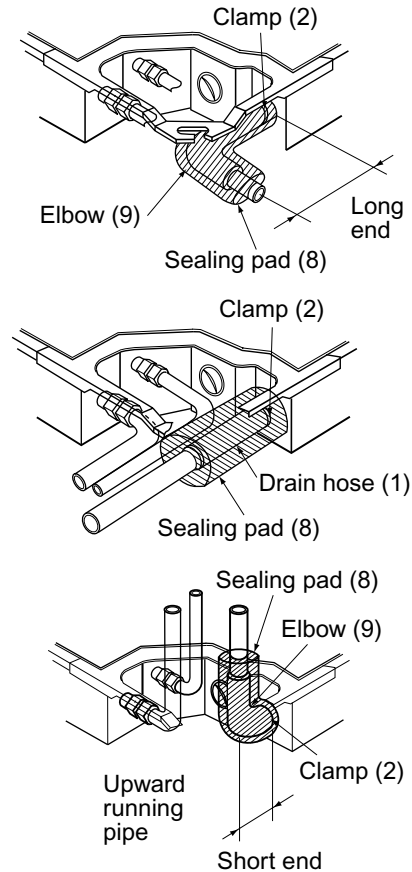

Fig. 28
- Use only the included drain hose (1), (for rightward running drain hose) or elbow (9) (for upward running drain hose) and clamp (2).
- Fit the drain hose (1) or elbow (9) over the drain piping up to the neck and fasten tight with the clamp (2).
- Tighten the clamp (2) until the screw head is less than 4mm from the hose.
- Insulate the clamp (2) and drain hose or elbow (9) with the included sealing pad (8). (Refer to Fig. 28)